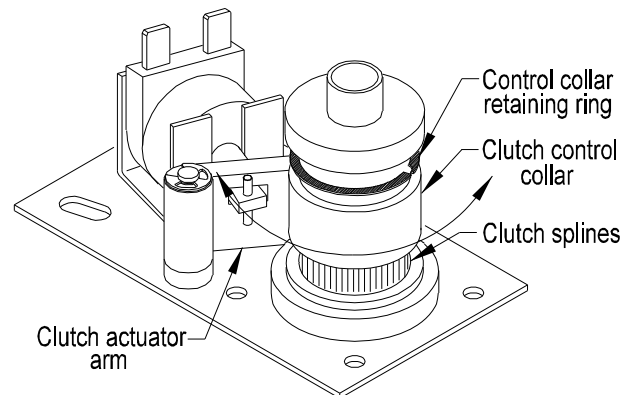

Figure 5.2
4. Slide the clutch control collar retaining ring upwards, followed by the control collar itself. (Figure 5.2)